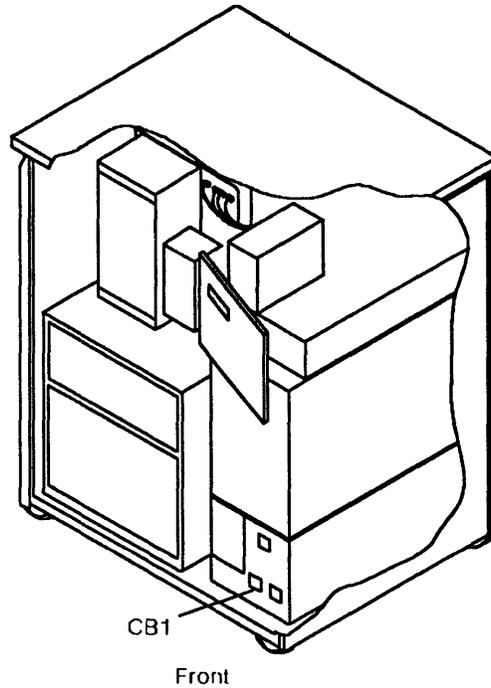

Figure 4-111. CB1 Location
4. Switch CB1 OFF. Refer to Figure 4-111